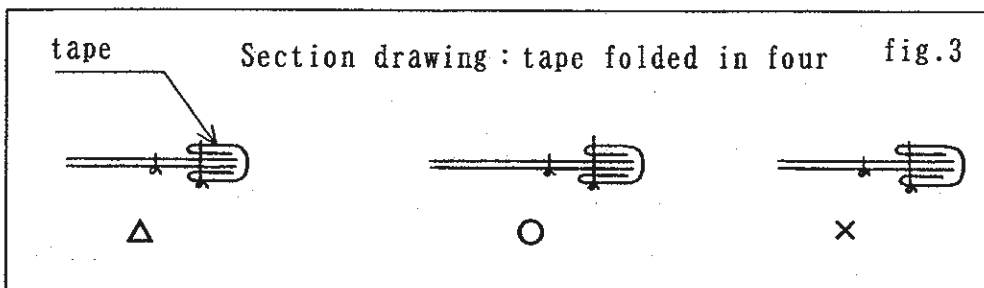

fig.3
- ☆ Loosen screw② and adjust the right and left position of folder.
- ☆ Loosen screw③ and adjust the up-and-down position and tilt in right and left of folder.
- ☆ For up-and-down position, adjust folder① so that its lower tape outlet④ is set below the surface of stitch plate.
- ☆ For the tilt, to obtain finish with the tape sewn wider on bottom(=narrower on top, See fig.3), adjust folder so that its lower tape outlet is set closer to stitch plate for 0.5 - 1.0 mm than upper outlet.
- ☆ For the adjustment, loosen screw③ and tilt folder① to left up direction.
- ☆ For the right and left position, set folder① to make the distance of 3.5-4.0 mm between the right needle and the innermost part of tape outlet of folder①.